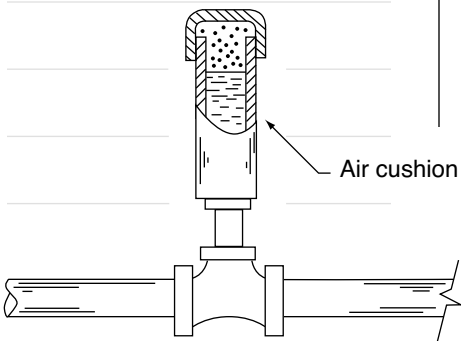

FIGURE 23
- ◆ Install air cushions or mechanical bumpers right next to appliances, such as washing machines and dishwashers, equipped with fast-acting valves (see Figure 23).